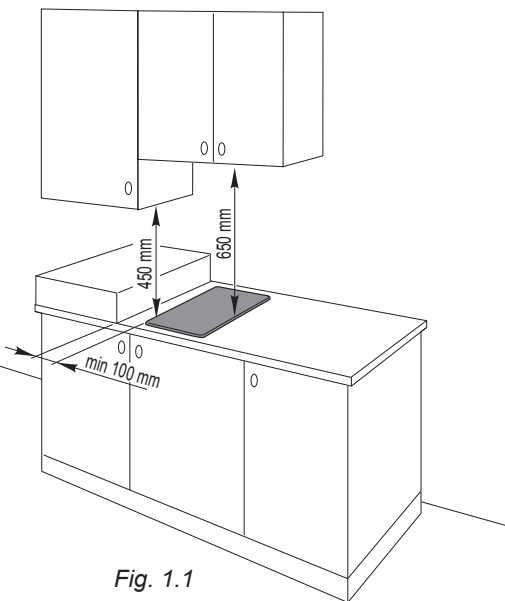

Fig. 1.1
- The cooker top must be kept no less than 100 mm away from any side wall (from side edge of cutout - fig. 1.1).
- There must be a distance of at least 650 mm between the hob and any wall cupboard or extractor hood positioned immediately above (see fig. 1.1).